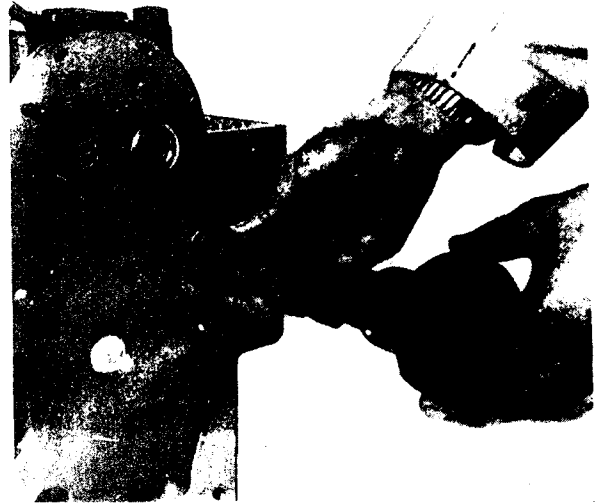
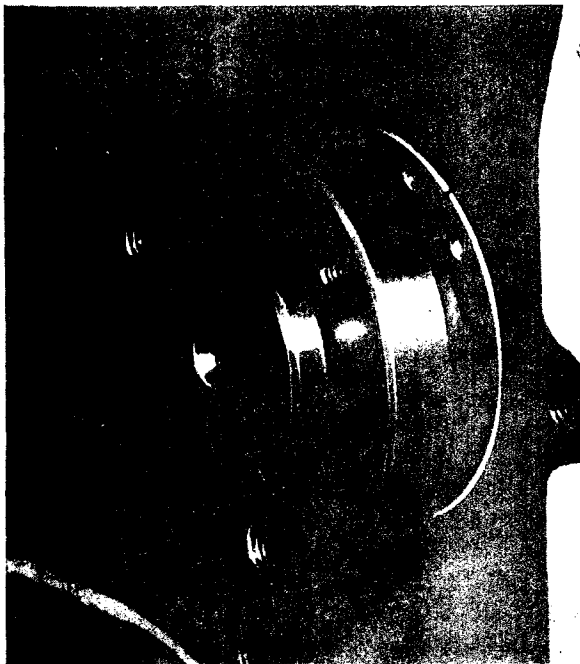

Fig. L.10.
Fig. L.9.
5. Remove timing cover back plate, this will show the camshaft and thrust plates as illustrated in Fig. L.9. Withdraw camshaft from block as shown in Fig. L.10. ensuring that cams and journals are not damaged, during this operation.
3. Before camshaft is pushed fully home locate the two thrust plates (Refer to Fig. L.13) (one of which locates on the dowel in the recess) in position, either side of the camshaft hub, when correctly located the camshaft can be pushed fully home and will appear as in Fig. L.9.